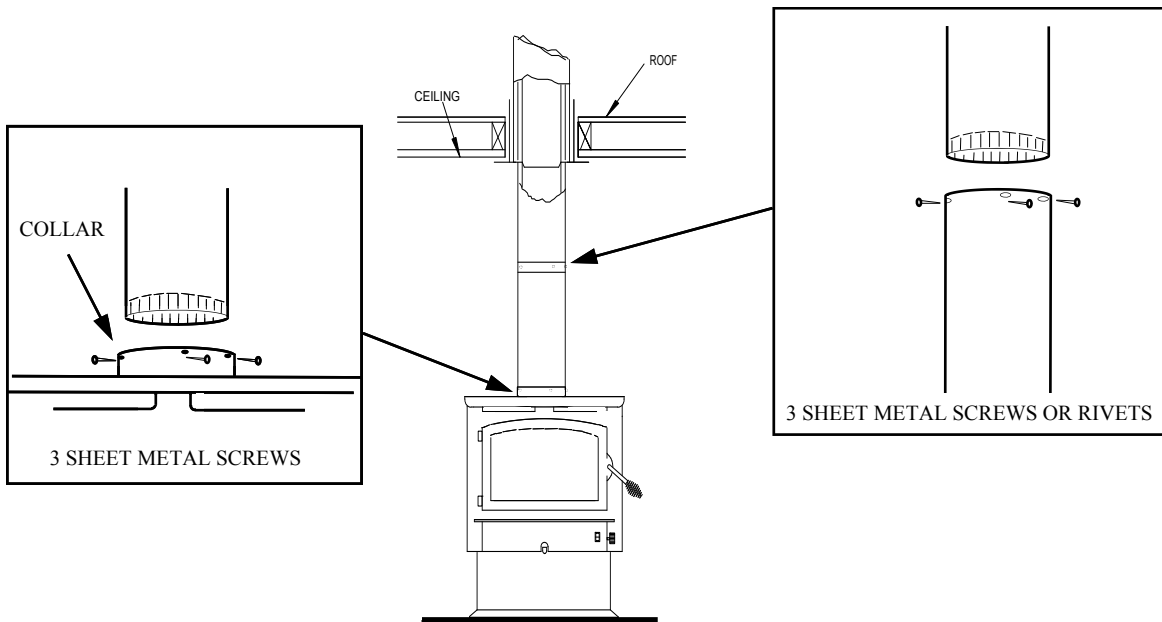

Figure 5
Now connect stove and ceiling support box using #24 ga. minimum blue or black steel connector pipe (**DO NOT USE GALVANIZED PIPE**). Connect each section so crimped end faces downward and secure each section to each other using at least three (3) sheet metal screws or rivets. Also use three (3) sheet metal screws to fasten pipe to collar on heater. (See Figure 5. Page 14).
5. Connect chimney connector to tee-box using #24 ga. minimum blue or black steel connector pipe. **DO NOT** use galvanized pipe. Connect each section so the crimped end faces downward and secure each section to each other using three (3) sheet metal screws or rivets. (See Figure 5).